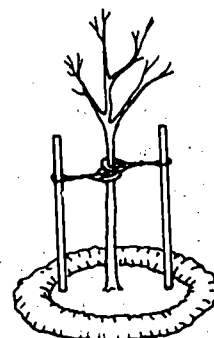

Fig. 67-2. Ring of Soil Built Up Around Trees to Hold Rainfall
8. Build a low-mounded ring around the perimeter of the hole. See Fig. 67-2.